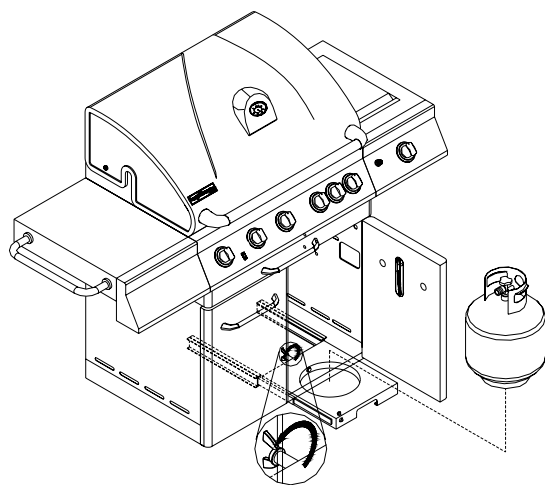

Figure 1
1. Put the gas tank into the gas tank tray. Then tighten up the gas tank retention kit for fixing the gas tank as shown in the figure 1 below.